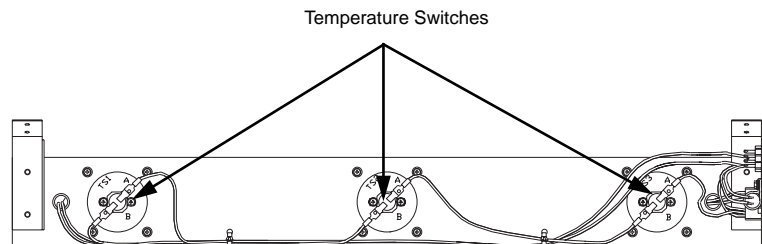

Figure 4.3.21: Fan Failure Detection Temperature Switches
7. Locate the temperature switch matched with the resistor replaced in steps 5 and 6 (see Figure 4.3.21).